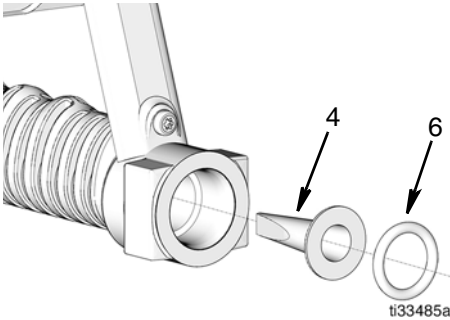

FIG. 16
6. Install new mesh strainer (4) and o-ring (10) in the inlet (FIG. 16).